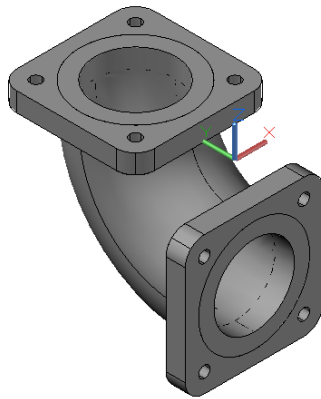

Figure 3-132 Resulting model after Step 16
16. Similarly, create the flange for the other face of the pipe. The resulting model should be similar to the one shown in Figure 3-132.